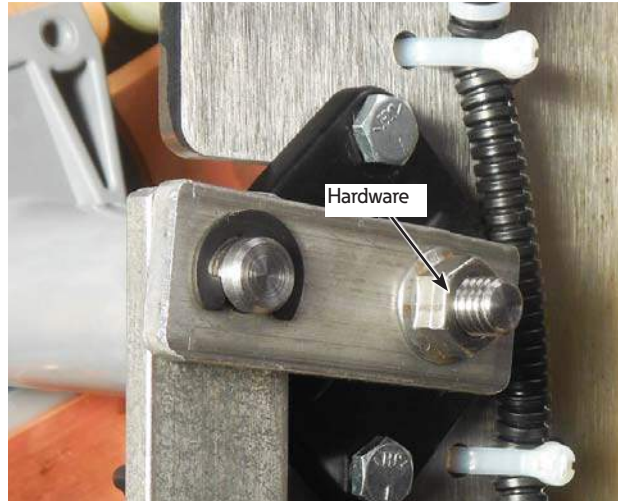

Figure 23. Fastening reversing segment
26. Place the self-locking nut onto the reversing segment shaft and tighten with a 9/16" wrench. The nut should be tightened to a torque of 180 to 192 in-lbs (20.3 to 21.7 Nm). See Figure 23.